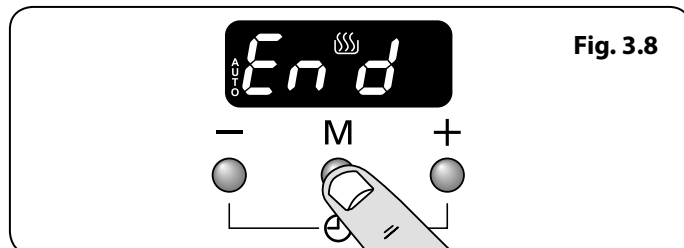
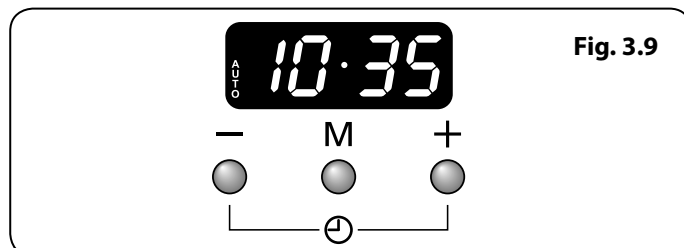

Fig. 3.8
Fig. 3.9
2. Press the mode [M] button until the display flashes 'End' (**Fig. 3.8**). Then set the 'stop time' using the [+] or [-] buttons. Current time will be displayed along with the word 'AUTO' (**Fig. 3.9**).